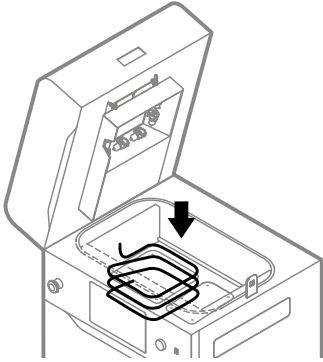

Fig. 12.38 Put on new fibreglass sealing.
19. Put on a new fibreglass rope by wrapping it two times around the Feed Bed. Remember not to stretch the fibreglass rope (fig. 12.38).